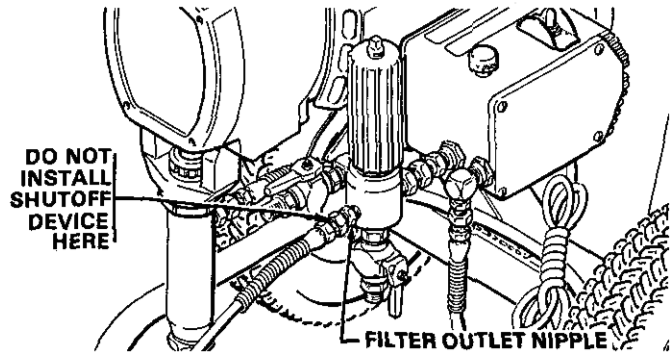

Fig 2
1. Connect Hose and Gun (Refer to Fig 2.)
2. Two Gun Hookup. (See Fig 2.) Remove the plastic cap plug from the secondary hose ball valve and attach an accessory hose and gun.
- Never install any shutoff device between the filter and the main hose. See Fig 2.